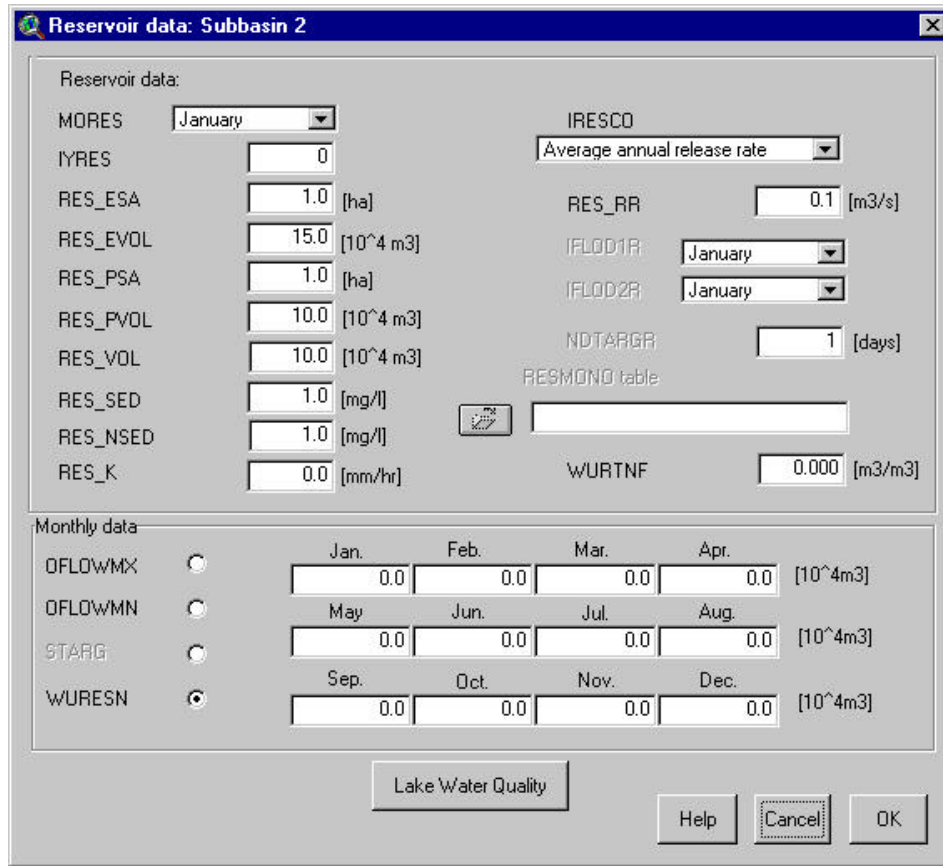

Figure 11.5
2. To edit the parameters for a reservoir, click on the number of the subbasin in which it is located. The Reservoir data dialog will open with the current data for the selected subbasin (Figure 11.5).